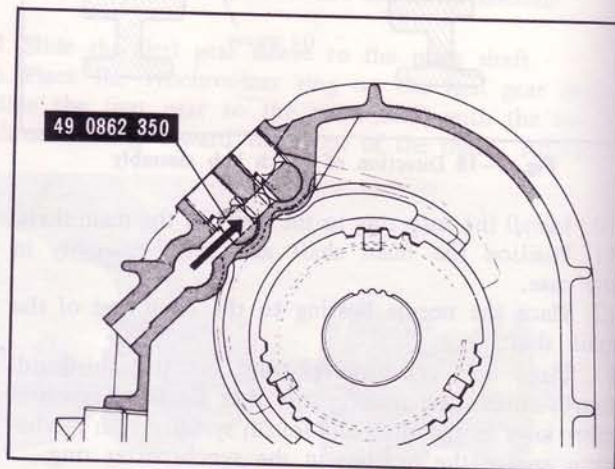

Fig. 7-26 Inserting shift inter-lock pin
31. Place the shift fork shaft in neutral position. Using the **shift fork rod guide** (Part No. 49 0862 350) shown in Fig. 7-26, insert the shift interlock pin into the case.